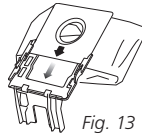

Fig. 13
- 6** Replace the dust bag by sliding it into the holder all the way with the opening on top and the arrow pointing in the direction that it is sliding. (Fig. 13) Make sure that the dust bag is inserted fully into the slot of the dust bag holder.